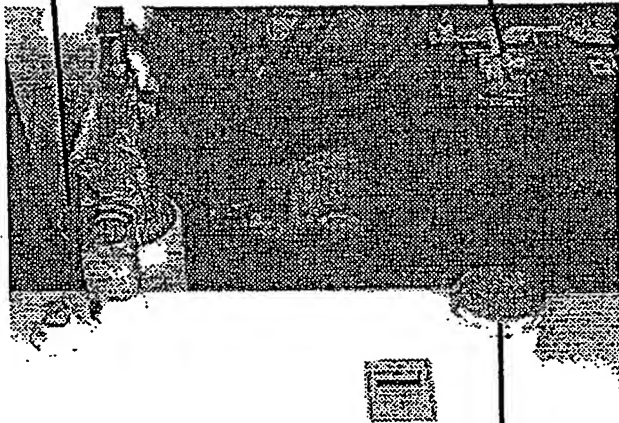

FIGURE 27
2. Remove the oil cap, see Figure 27, and check the level. If oil is apparent, the level is satisfactory.